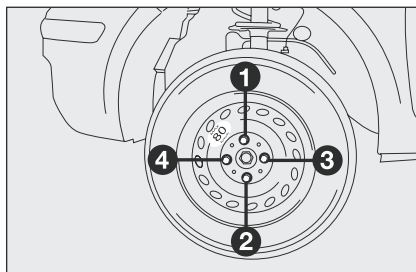

fig. 6
- ❑ use the wrench provided to fasten the bolts completely in a criss-cross fashion as shown in **fig. 6**;